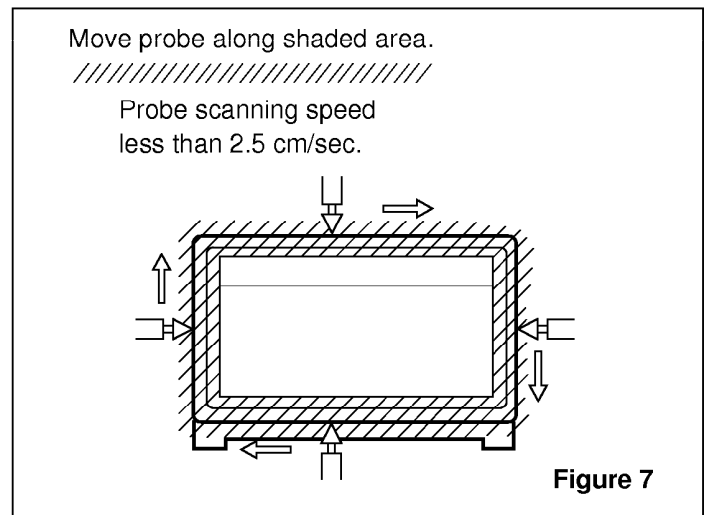

Figure 7
- (1) Pour 275 ± 15cc of 20 ± 5 °C water in a beaker which is graduated to 600 cc, and place the beaker in the center of the oven.
- (2) Set the energy leakage monitor to 2,450 MHz and use it following the manufacturer's recommended test procedure to assure correct result.
- (3) When measuring the leakage, always use the 2 inch (5 cm) spacer supplied with the probe.
- (4) Operate the oven at its maximum output.
- (5) Measure the microwave radiation using an electromagnetic radiation monitor by holding the probe perpendicular to the surface being measured. (See Figure 7)